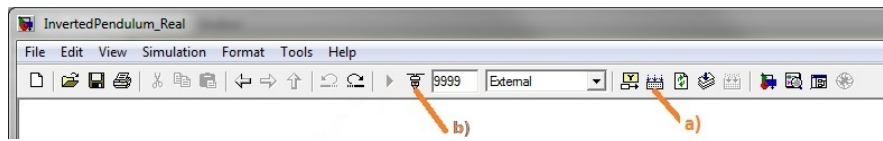

Figure 3.2: Press first a) to build the model, and then b) to connect to the target.
1. As depicted in Fig. 3.2 press a) to build the Simulink model.
- To start the experiment, proceed as in the first point described in section 3.2.2 and Fig. 3.2.
- Set the 'manual allow signal' in the Simulink file back to 0 and then press button b) (Fig. 3.2) again if you want to stop the real-time execution.